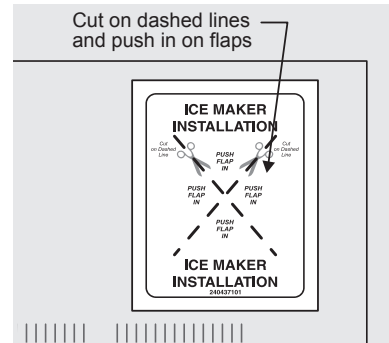

Figure 3
7. Use a small kitchen knife to cut the dashed lines on the Ice Maker Installation label located on the outside rear panel of the refrigerator in the top, right corner. See Figure 3. Push the flaps inward until they stick to the unit.